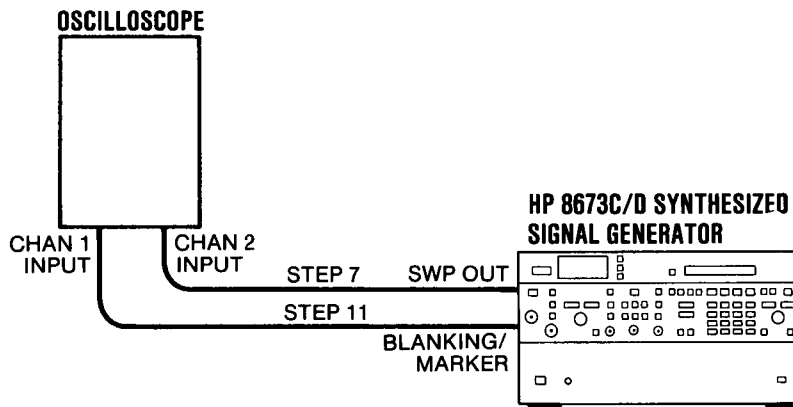

Figure 5-57. Sweep Out and Blanking/Marker Adjustments Test Setup
7. Connect the Signal Generator to the oscilloscope's channel 2 input as shown in Figure 5-57.